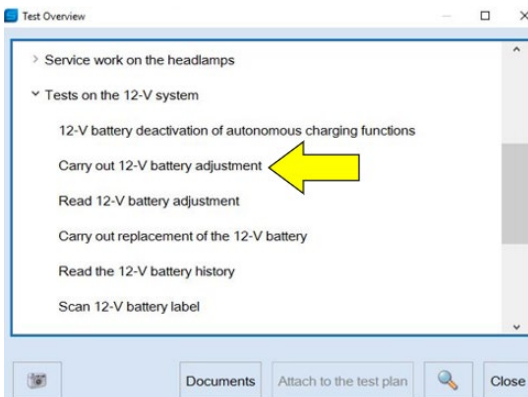

Figure 20: 12V battery adaptation
- Select "Carry out 12V battery adjustment" (see figure 20) and attach to test plan
- End the diagnostic session with the diagnosis stop button (see figure 20 above).